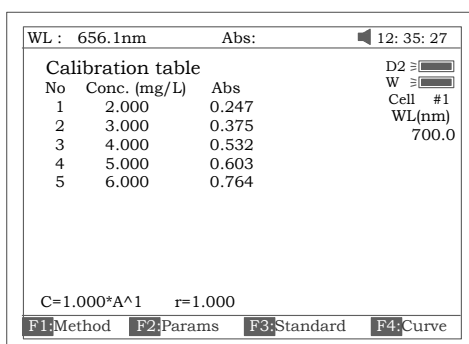

Fig 33
3.3.3 Pull the first sample cuvette of known concentration into the light path, Press the key **【START】** to get values of standard curve one by one (Fig 33).
In Fig 33 press **【Load】** and then press **【^】** or **【V】** to select the file with type *****.fit**. At last press **【ENTER】** TO confirm.